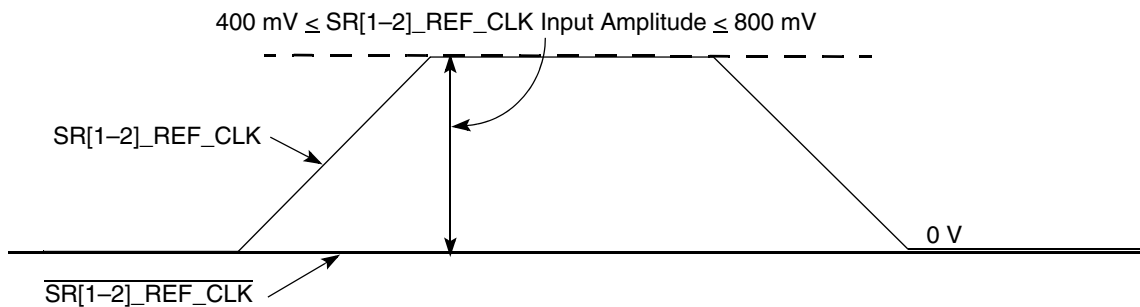

Figure 9. Single-Ended Reference Clock Input DC Requirements
- The $\overline{SR[1-2]_{REF_CLK}}$ input average voltage must be between 200 and 400 mV. Figure 9 shows the SerDes reference clock input requirement for single-ended signalling mode.